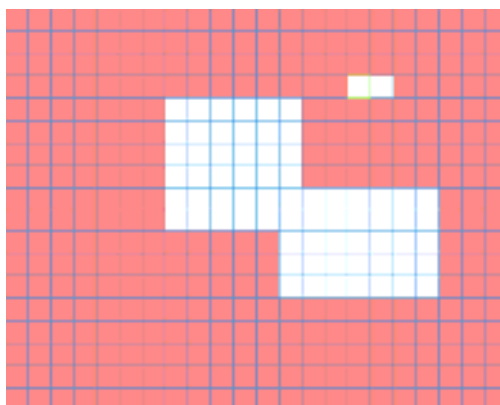

Figure 3-49
- Region: Click select button, the interface is shown as in Figure 3-49. Here you can set motion detection zone. There are 396(PAL)/330(NTSC) small zones. The green zone is current cursor position. Grey zone is the motion detection zone. Black zone is the disarmed zone. You can click Fn button to switch between the arm mode and disarm mode. In arm mode, you can click the direction buttons to move the green rectangle to set the motion detection zone. After you completed the setup, please click ENTER button to exit current setup. Do remember click save button to save current setup. If you click ESC button to exit the region setup interface system will not save your zone setup.
In Figure 3-49, you can left click mouse and then drag it to set a region for motion detection.